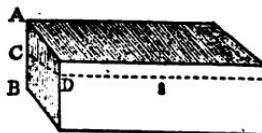

FIG. 55.
**To make a Writing Desk.**—A writing desk is usually of the shape represented in Fig. 55, hingeing at the middle of the back, so that when it is opened out, the two inside covers of the two parts form one flat surface slightly oblique for writing on.